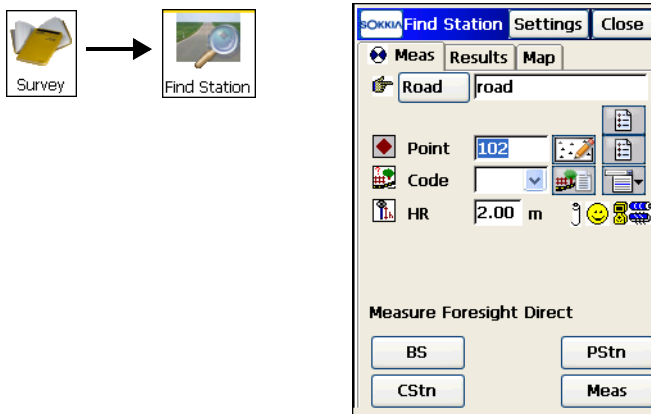

Figure 8-49. Find Station – Measurement Tab
1. To start working, tap **Survey** ► **Find Station** (Figure 8-49).
3. Enter the road, the name and the code of the point and the height of the rod (target) (Figure 8-49 on page 8-45).